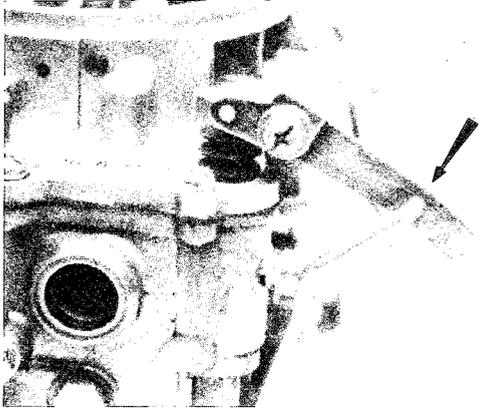
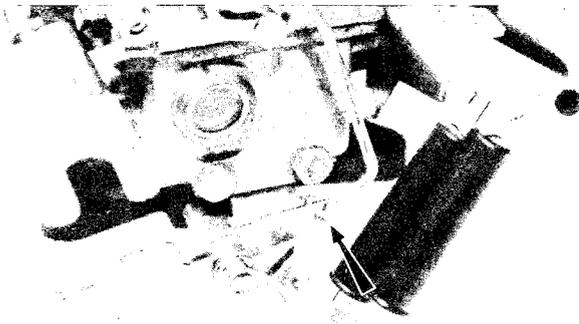

Fig. 4-27 Specified hole of accelerator pump lever
Fig. 4-28 Specified hole of choke lever
4. When connecting the accelerator pump rod and choke connecting rod to their respective lever, use the specified holes as shown in Fig. 4-27 and Fig. 4-28.